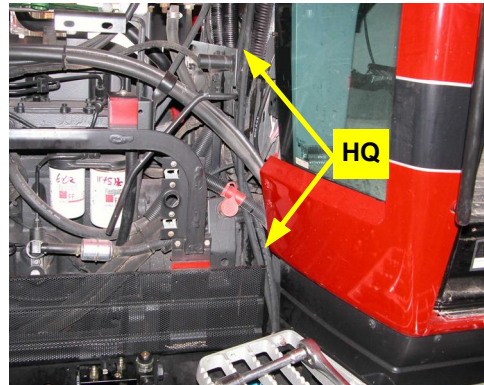

Figure 5a: Installed steering output hoses
- a. Connect the steering output hoses **HQ** to the run-tee fittings **HJ** and route the hoses adjacent to the tractor firewall down towards the hydraulic steering block (Figure 5a).